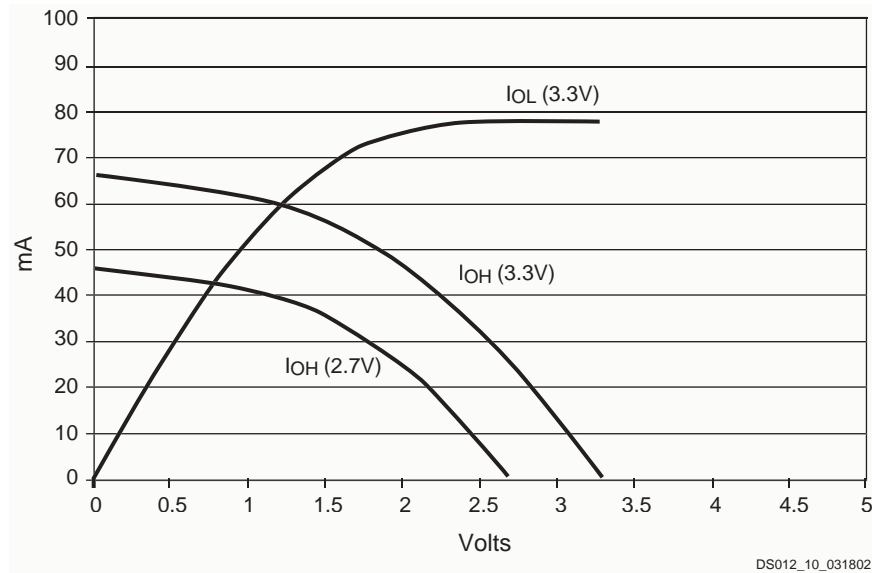

Figure 2: Typical IV Curve for the XPLA3 Family, 3.3V, 25°C
1. See Figure 2 for output drive characteristics of the XPLA3 family.